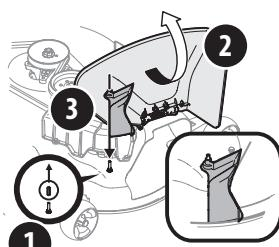

Figure 32
2. Remove the deck pin rubber protective cap, (1) in Figure 32.
3. Raise the chute deflector (2) on the deck and hold it while you install the chute adapter (731-10133) (3), onto the deck as shown in Figure 32.